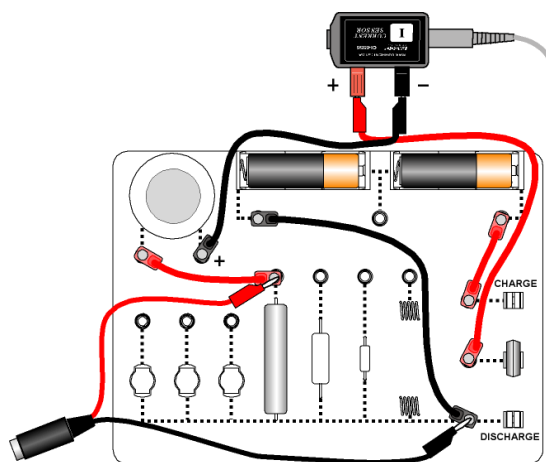

Figure 2
2. For ScienceWorkshop, use Figure 2. Attach the Voltage Sensor to analog channel A. Attach the Current Sensor to analog channel B.
6. For PASPORT, open the file "Capacitor (PP).ds." For ScienceWorkshop, open the file "Capacitor.ds."